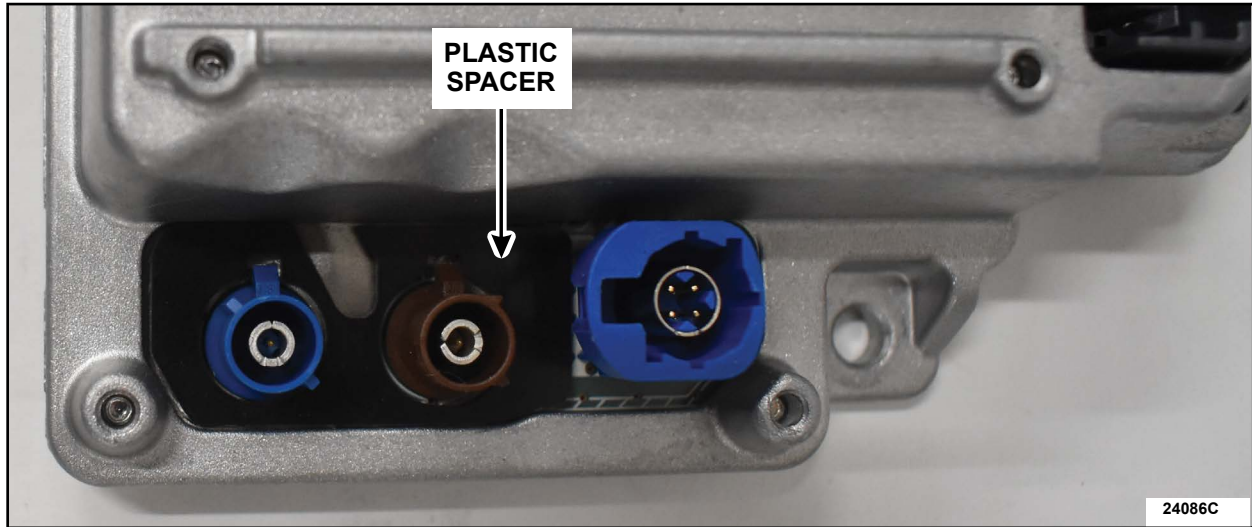

FIGURE 3
4. Using a tilting motion install the plastic spacer on top of the absorber on the APIM. See Figure 3.